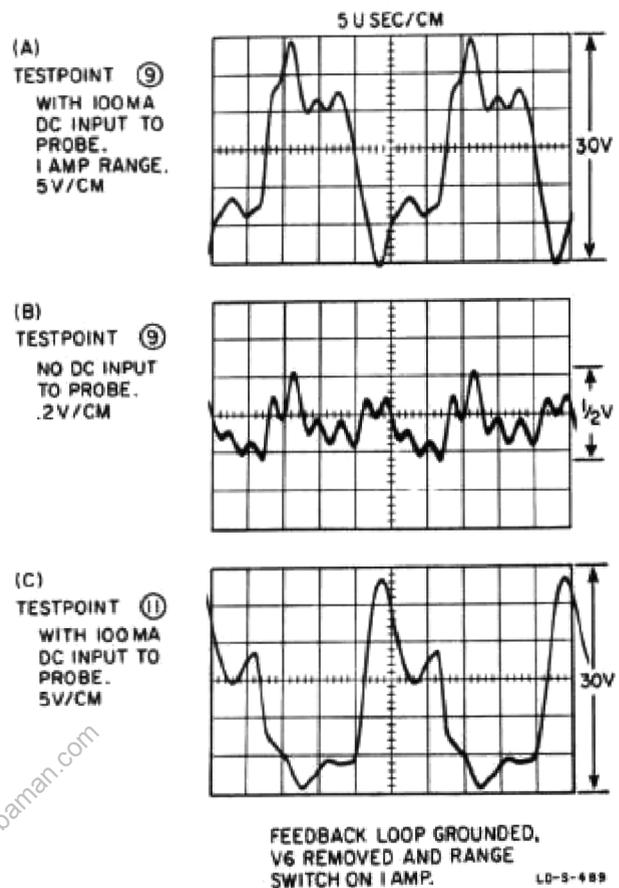

Figure 5-7. Trouble Localization Waveforms
b. With Q1 still grounded, check waveforms (figure 5-7) at transformer T2 (testpoints (9), (10), and (11) on the schematic). Note that the amplitude and shape of these waveforms vary as you rotate the ZERO control. The waveform at testpoint (10) should be in-phase with the waveform at testpoint (9) while the waveform at testpoint (11) should be out-of-phase. If these waveforms are not correct, check V3, 4, and C19 and associated circuitry. If these waveforms are correct check the waveform at testpoint (5). If waveform (5) is correct go to step d. If waveform (5) is not correct, go to step c.
c. Check the waveform at testpoint (6). This waveform should be at 10 volt sine wave. If this waveform is good check V5 and associated circuitry. If the trouble is not found check the waveform at testpoint (1). If this waveform is correct, check V5. If the waveform at testpoint (1) is correct but the waveform at testpoint (6) is still not correct, the trouble may be in L7 or T4.
d. To check T2 remove V3, 4 and 6. With the base of Q1 still grounded and the RANGE switch on 30 MA, check the waveforms on testpoints (9), (10), and (11). These waveforms should be sine waves whose amplitude varies as you rotate the ZERO control. The peak of the waveform should sweep through at least 7 volts of space on the oscilloscope screen as the ZERO control is rotated throughout its range. In addition the amplitude of these waveforms should be approximately the same with (9) and (10) in-phase and (11) out-of-phase (oscilloscope must be externally triggered, see notes on schematic). If not, check circuitry connected to transformer T2 or tubes V3 and V4. If correct, replace transformer T2.